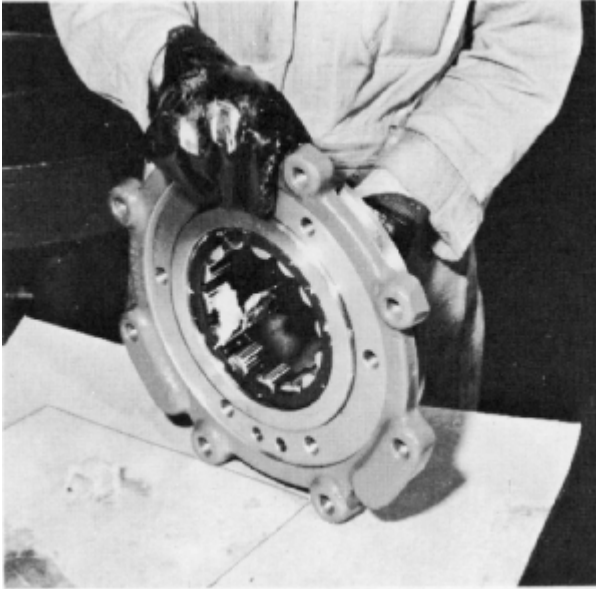

Fig. 9 - Coating I.D. Of Roller And Cage Assembly
2. Replace roller-cage in outer race, and work grease around I.D. of rollers and into cage pockets, Fig. 9.